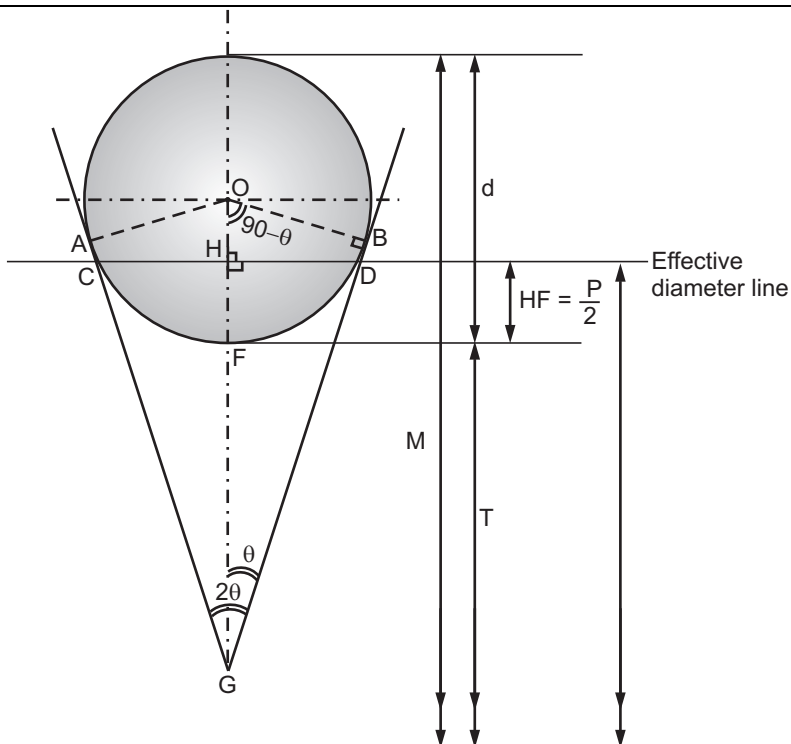

Fig. 5.9: Geometry developed to find 'P'
- The value of P depends upon diameter of wire used and pitch of thread 'p'. Using the geometry developed as shown in Fig. 5.9, we see that,